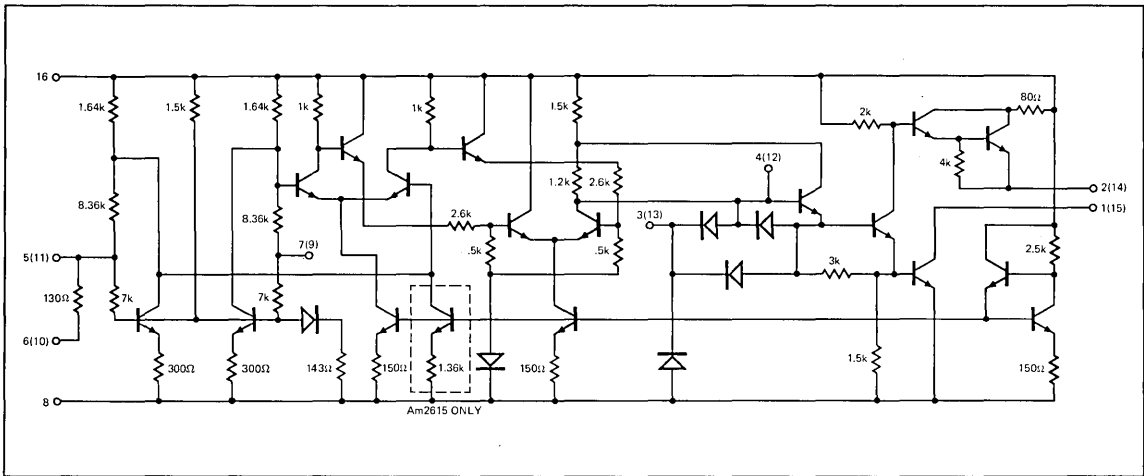

Figure 11. Am9615/Am2615 Differential Line Receiver Circuit Diagram
The Am9615 circuit is shown in Figure 11. The receiver consists of: (1) an input attenuator used to improve noise rejection by decreasing the voltage seen at the inputs of the differential amplifier. The attenuator is designed to give a ± 15 volt common-mode rejection with a single $+5$ volt supply and, to limit the voltage seen by the input transistors of the amplifier. A 130Ω terminating resistor is available at the input of the attenuator; (2) a two-stage differential amplifier that takes the attenuated signals and produces an amplified signal to drive the output buffer; (3) a temperature-compensated current source; (4) an output buffer which produces TTL logic levels. The active pull-up and active pull-down circuits are brought out to separate pins for multiplexed operation. A strobe input and frequency response control are also provided.